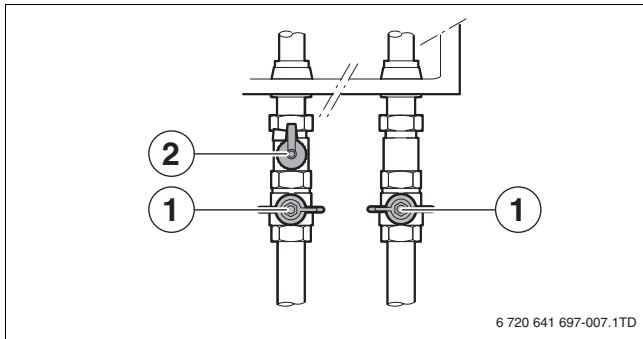

Fig. 7 Maintenance shut-off valves
- ▶ Open the maintenance shut-off valves (fig. 7, [1]) and drain (fig. 7, [2]) of the Logamax plus GB142.